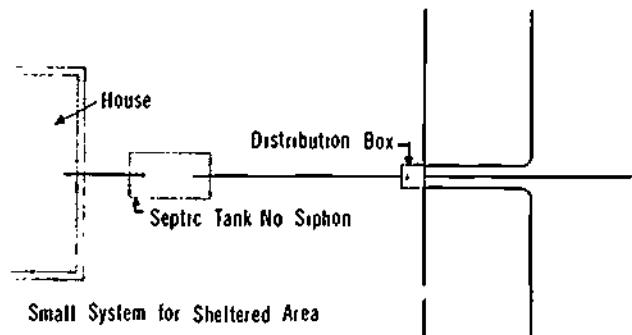

Figure 24-5. Disposal-Field Layout with a Single Distribution Box
- b) If the siphonless tank is used with a disposal field, the layout should be such that all the laterals will receive an equal amount of the effluent. Figure 24-5 shows a disposal-field layout using a single distribution box.